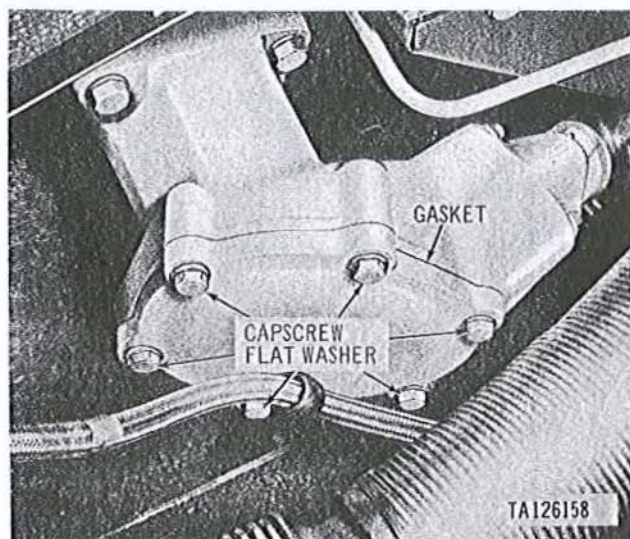

Figure 2-160. Removing or installing camshaft gear housing cover.
(1) Remove six capscrews, flat washers and loop clamp (fig. 2-160) attaching camshaft gear housing cover. Remove cover and gasket. Discard gasket.